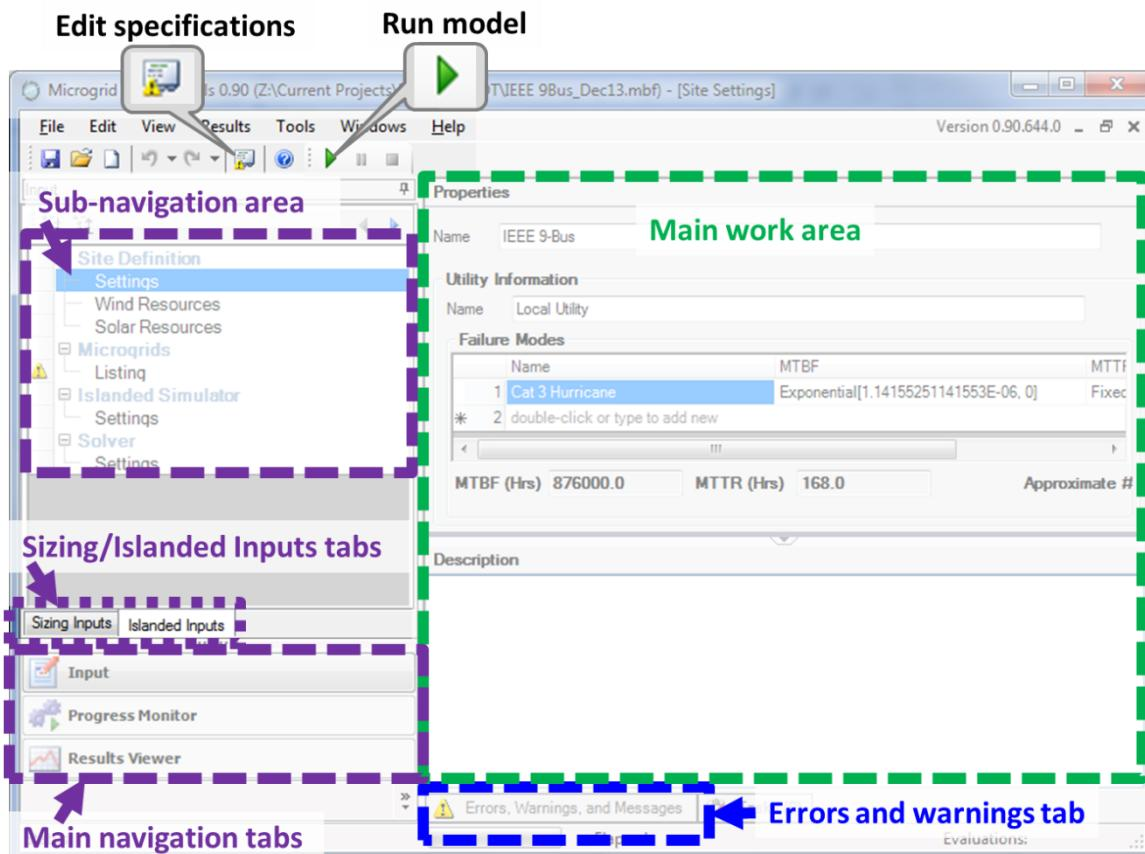

Figure 62. MDT main screen overview.
There are three main areas of MDT. They are accessed via tabs at the bottom left corner of the screen (*Main navigation tabs* in Figure 62).
Pages within each section are accessed via links in the upper left corner of the screen (*Sub-navigation area* in Figure 62). When the Input tab (under *Main navigation tabs* in Figure 62) is selected, the user can choose whether to display Sizing Inputs or Islanded Inputs (using the tabs just above the main navigation tabs) depending on the analysis being performed. Islanded Inputs is the default mode.
- The **page navigation** area is located on the left side of the page (highlighted in purple in Figure 62).
- The **main work area** (highlighted in green in Figure 62) takes up the majority of the screen. This is where elements are added and modified.
**Errors**  and **warnings**  for all pages are accessible through the “Errors, Warnings, and Messages” tab at the bottom of the screen (highlighted in blue in Figure 62). Errors and warnings are also displayed on the element pages next to the elements with problems.